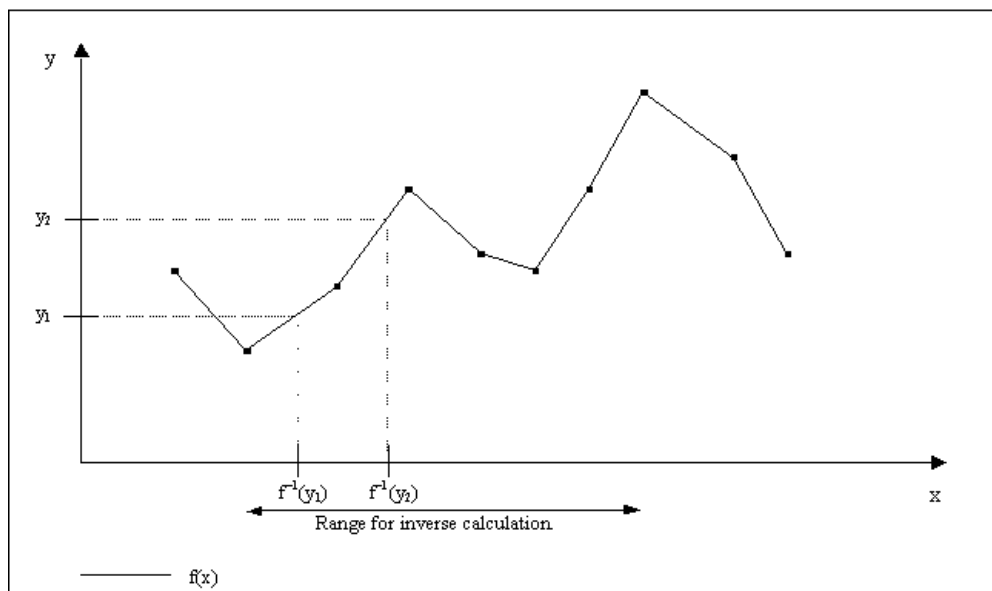

Figure 92. Calculation of the inverse function $f(x)$
- If the inverse is still not unique, the smallest value is chosen. This is illustrated in Figure 92, which shows the inverse calculation for two different *InInverse* values, y_1 and y_2 . For y_1 there are two possible inverse values. The rightmost is chosen, since the inverse is calculated from the curve between the maximum and minimum values. For y_2 , there are four possible inverse values, three of which are inside the inverse range. The leftmost of these is chosen. If *InInverse* is greater than the maximum defined value of y or less than the minimum defined value of y , the inverse calculation is based on using the maximum or minimum value respectively.